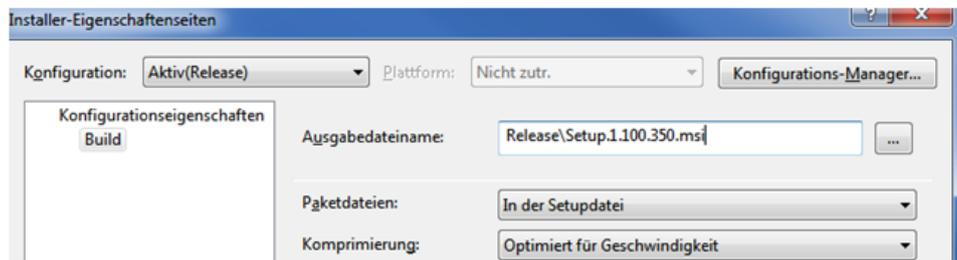

Figure 3.10: Name of the installer file
- (a) Set the name of the outputfile: SetupX.Y.Z.msi ¹, see Figure 3.10 (right mouse click on "Installer"- Project/Eigenschaften to get this window)